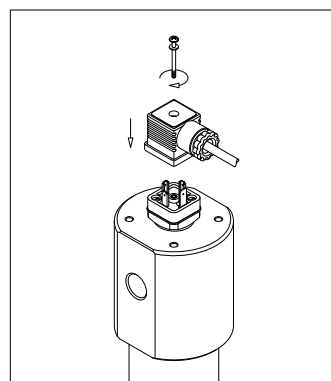

fig. 9
- (Fig. 9) Insert the connector by fastening the central screw (only for electrical indicators)